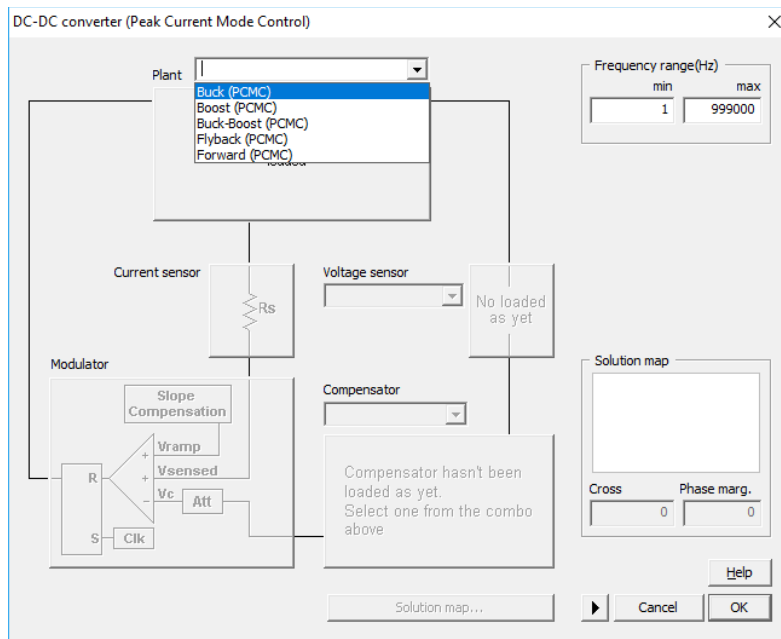
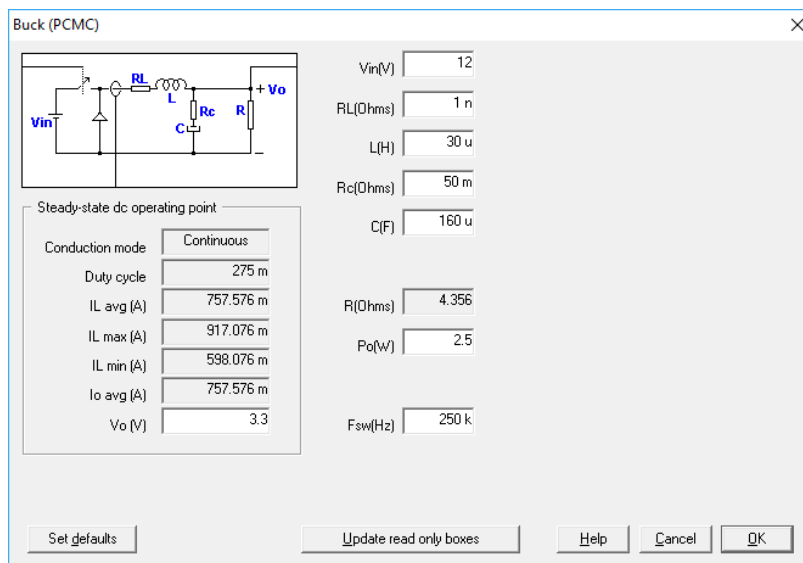

Figure 4: Selecting the topology
Figure 5: buck converter parametrization
2. Select one of the pre-defined DC/DC converters. In this tutorial a buck converter has been chosen and configured. See Figure 4 and Figure 5.